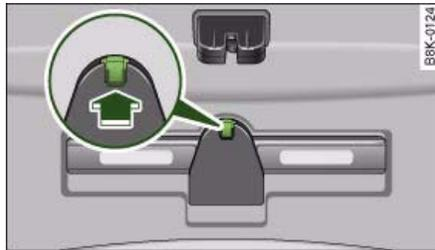

Fig. 264 Warning triangle fitted inside boot lid
- To remove the warning triangle, push the tab in the direction indicated by the arrow ⇒ fig. 264 and pull the retainer down.